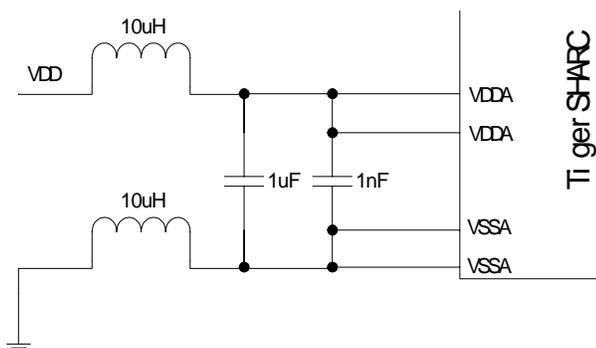

Figure 4. Analog power supply filtering circuit reference design
1. Note that the analog supply (VDD\_A) provides power to the clock generator PLLs. To produce a stable clock, systems must provide a clean power supply to power input VDD\_A. Designers must pay critical attention to bypassing the VDD\_A supply. Figure 4 is a reference design of the filtering circuit. Place components as close as possible to the device.